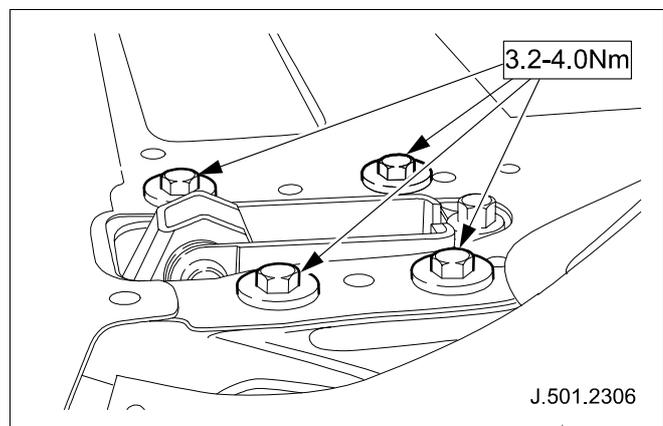

Fig. 4
- 4 One at a time, undo and re-torque luggage compartment lid hinge to body securing bolts (Torque to 3.2–4.0Nm). (See Fig. 4)